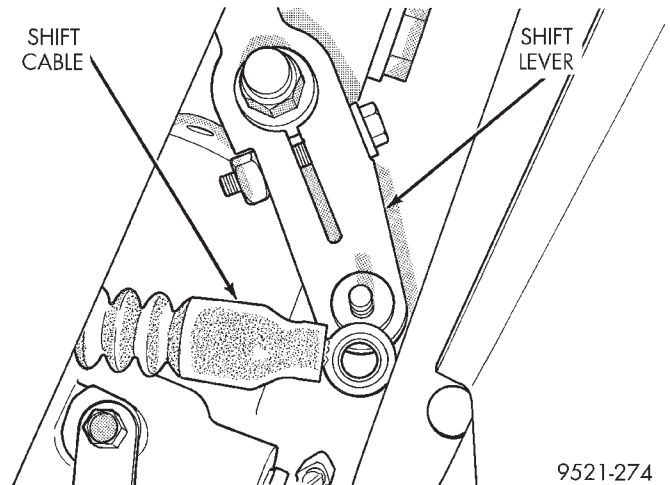
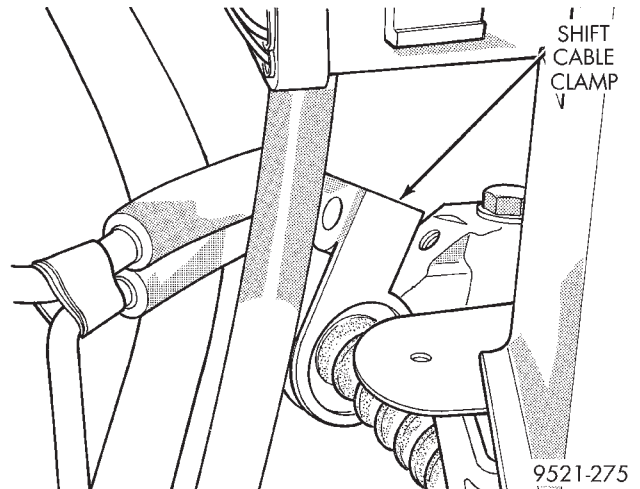

Fig. 43 Shift Cable at Lever
Fig. 44 Shift Cable Clamp
- (7) Remove shift cable at lever and at clamp on transaxle (Fig. 43) (Fig. 44).